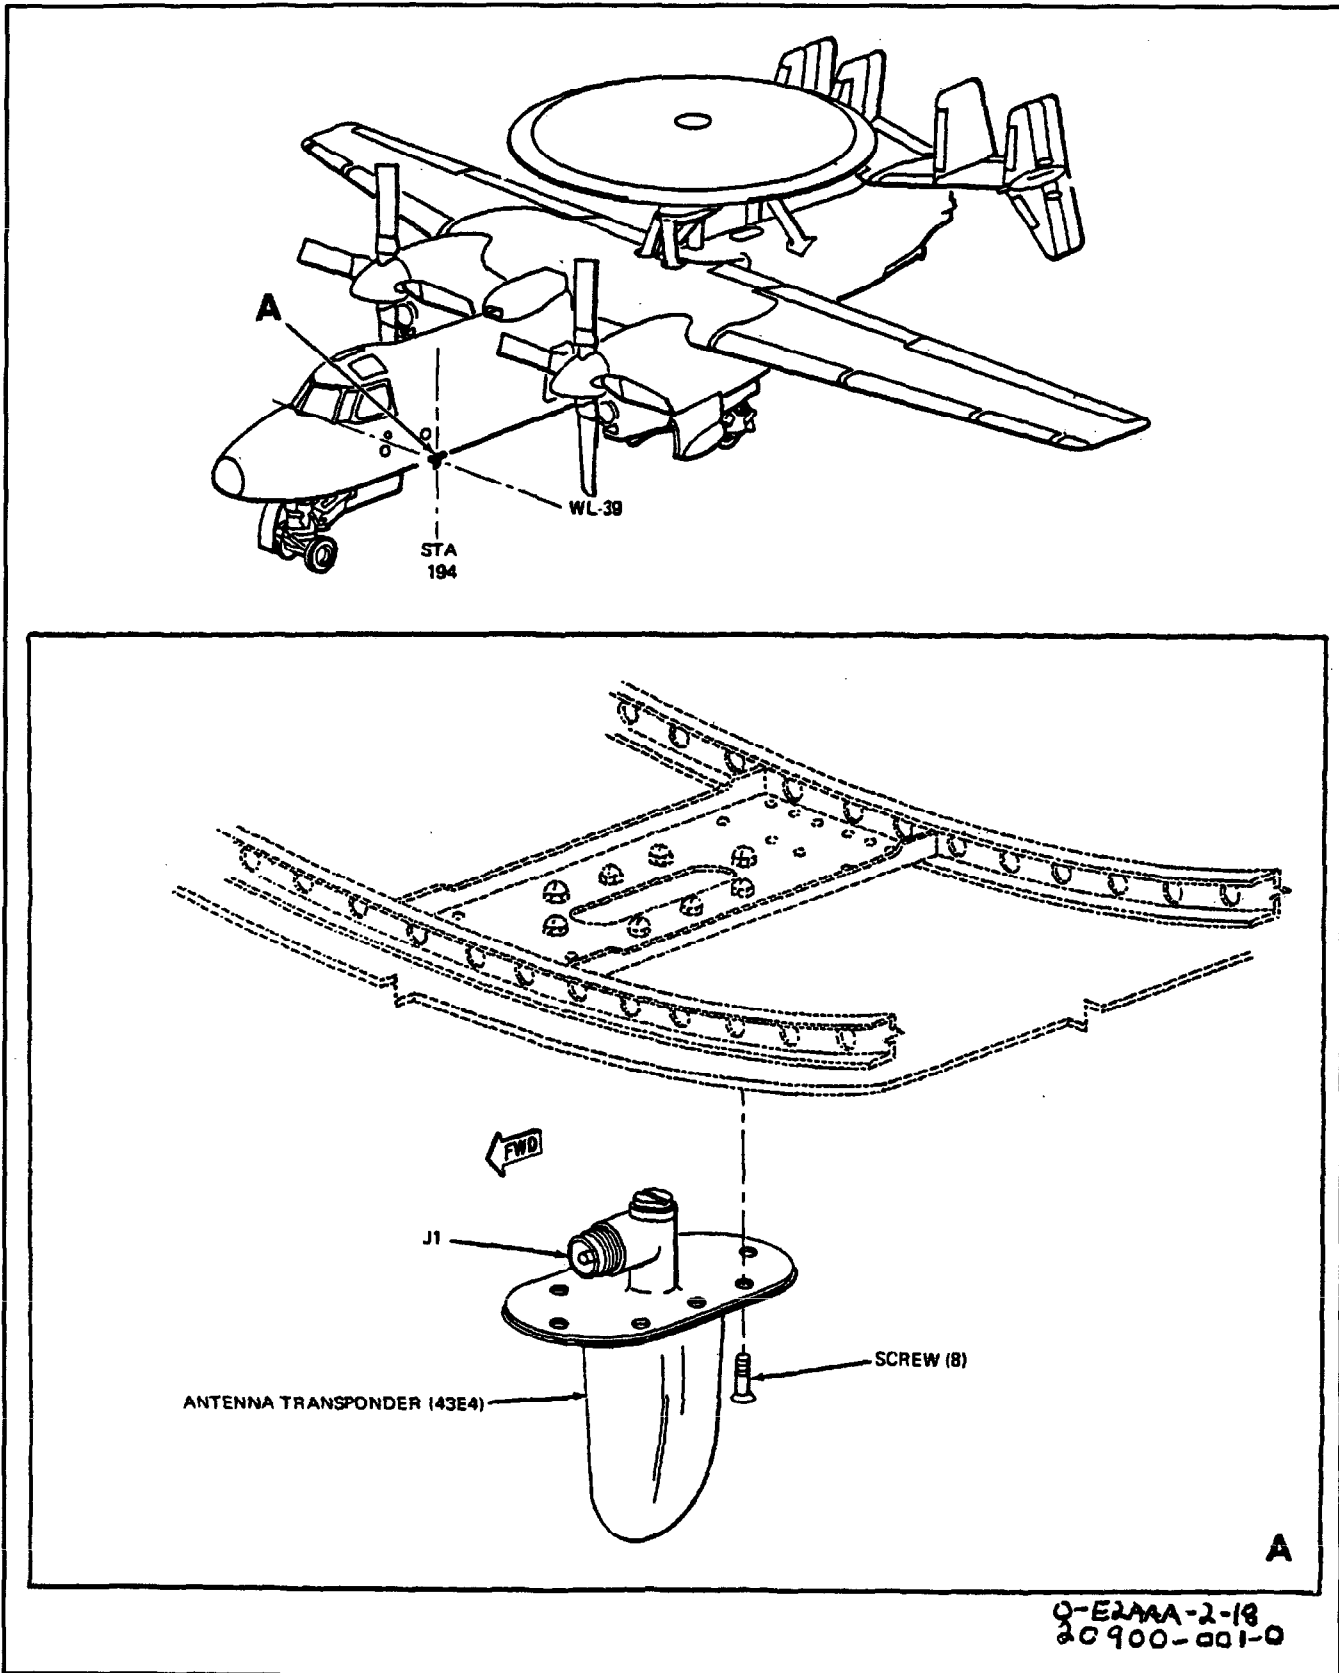

Figure 1. Removal and Installation of Antenna Transponder
3. **REMOVAL.** (See figure 1.)
4. **INSTALLATION.** (See figure 1.)